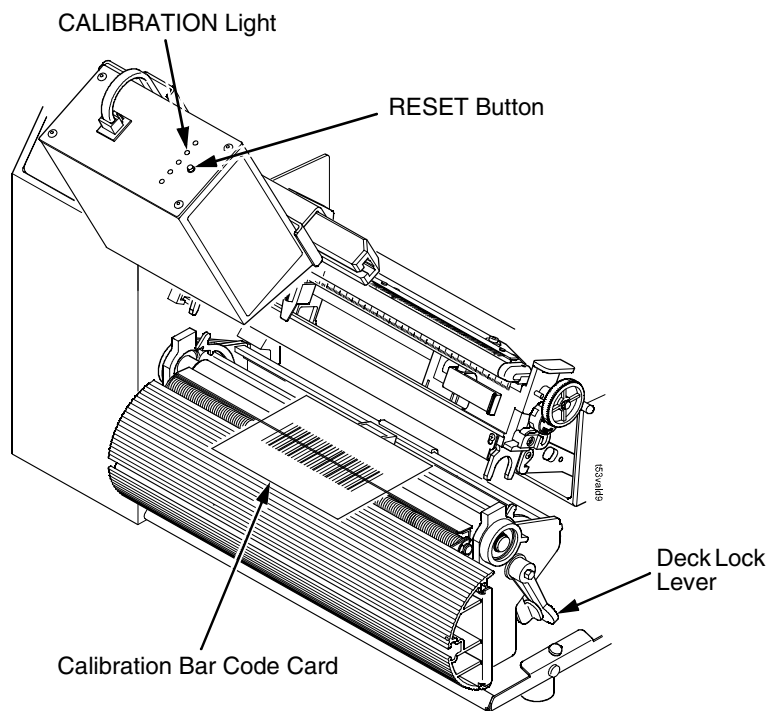

Figure 17. Calibrating the Validator
4. Remove the calibration bar code card from its protective sleeve and slide it into the open printhead and under the scanning beam. (Figure 17.)